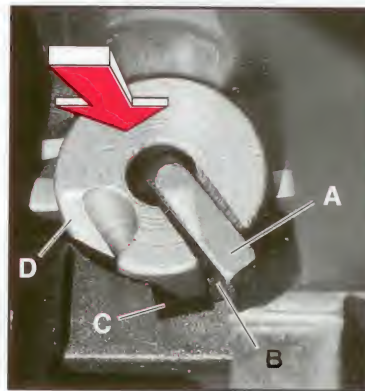

Fig. 10 – Bolt not yet locked. Firing pin tang blocked by receiver bridge.
Figs. 10 & 11 show safety features of the M1 rifle designed to prevent the hammer from driving the firing pin forward until the bolt is securely locked. The rear of the bolt is seen from inside the receiver. As the bolt moves forward, contact between the firing pin tang (A) and the rear wall of the lower receiver bridge (B) retracts the firing pin until the bolt has rotated clockwise into its locked position, aligning the firing pin with a slot (C) permitting its passage forward. If the bolt is not completely locked, a projecting tang on the hammer face strikes a cam surface (D) on the bolt, forcing it closed before the hammer can reach the firing pin.